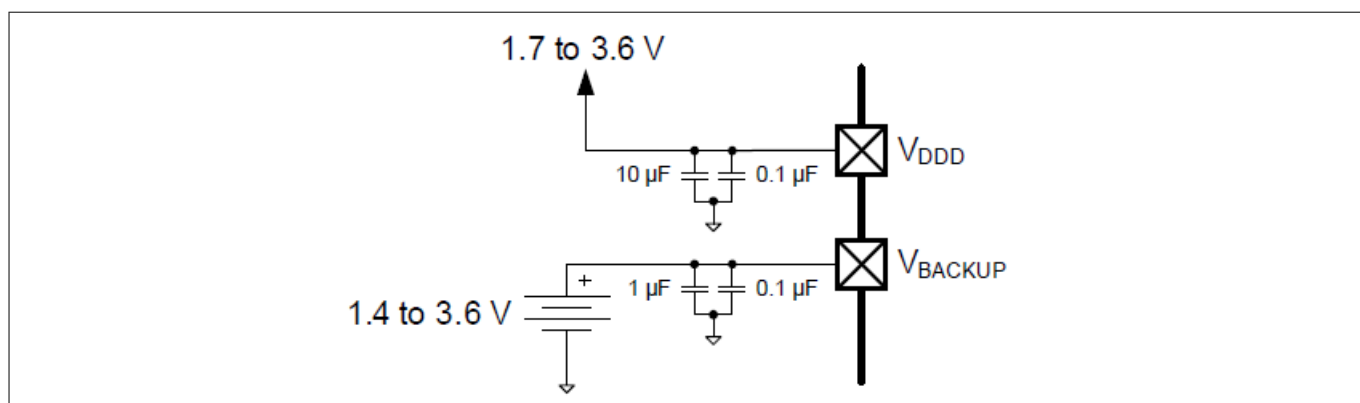

Figure 19 Separate battery connection to V_{BACKUP}
- V_{BACKUP} : the supply for the backup domain, which includes the 32-kHz WCO and the RTC. It can be a separate supply as low as 1.4 V, for battery or supercapacitor backup, as Figure 19 shows, otherwise it is connected to V_{DDD} . It powers I/O port 0